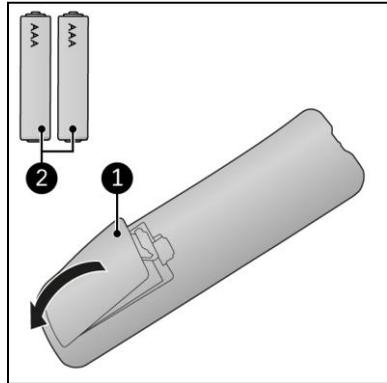

Figure 17
1. Remove the cover (Figure 17, pos. 1).
3. Insert two batteries (AAA 1.5V) (Figure 17, pos. 2) as indicated in the battery compartment. Make sure to insert the batteries correctly.